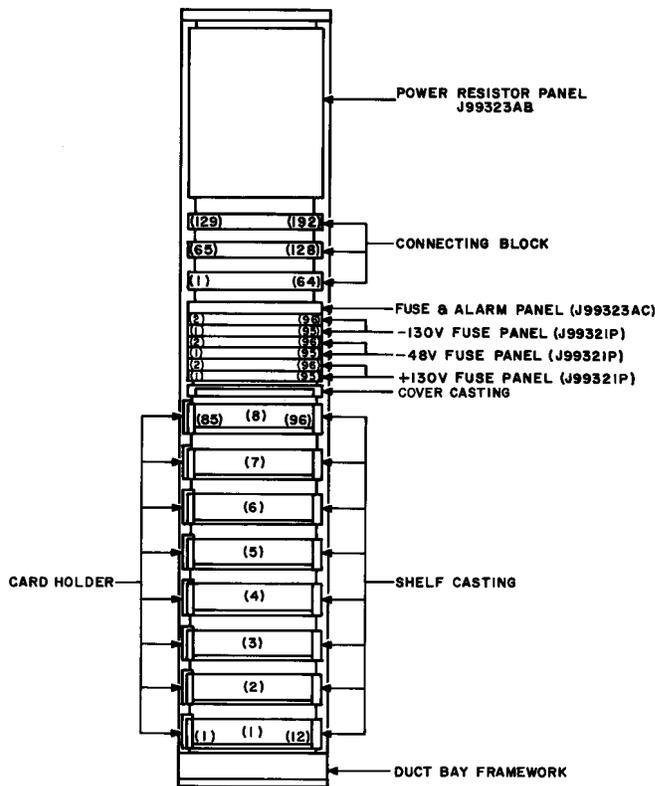

Fig. 1 — J99323B N2 Line Build-Out Bay Equipped with Line Protectors and Power Feed (11 Feet 6 Inches High by 26-3/8 Inches Wide)
2.07 *The J99323B line build-out bay*, shown in Fig. 1, is an 11-foot 6-inch bay with primary line protectors and power feed arrangements. The bay is arranged to provide line build-out equipment for 192 carrier pairs in aerial or buried cable facilities. The fully equipped bay
2.11 The J99323F line build-out bay is similar to the bay shown in Fig. 1 except that the equipment has been reduced to fit into a 7-foot bay. It provides build-out equipment, protectors, and power feed arrangements for building-out 96 carrier pairs in aerial or buried cable facilities. The fully equipped bay includes four mounting shelves for forty-eight J99323AA line build-out units with constant-current regulators, three J99321P fuse panels (one for -48 volt power, one for -130 volt power, and one for +130 volt power) for supplying power to the cable pairs, one J99323AC fuse alarm panel for operating office alarms, two J62A1A-64 connecting blocks
2.15 *The J99323P line build-out bay* is similar to the bay shown in Fig. 1 except that the equipment has been reduced to fit into a 9-foot bay. The unit provides build-out equipment, protectors, and power feed arrangements for building-out 144 carrier pairs in aerial or buried cable facilities. The fully equipped bay includes six mounting shelves for seventy-two J99323AA line build-out units with constant-current regulators, six J99321P fuse panels (two for -48 volt power, two for -130 volt power, and two for +130 volt power) for supplying power to the cable pairs, one J99323AC fuse alarm panel for operating office alarms, three 62A1A-64 connecting blocks for primary protection of the cable pairs, and one J99323AF power resistor panel to dissipate the excess power created in maintaining the proper line current.